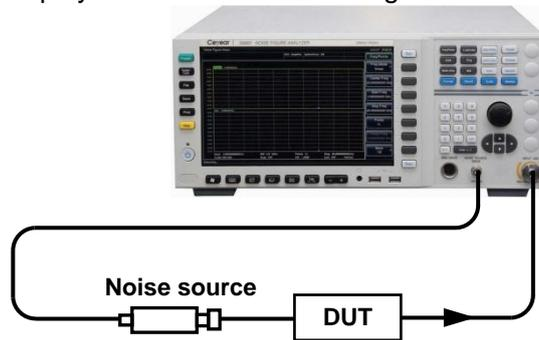

Figure 4.12 Connect DUT for Measurement
**Step 3.** Connect the noise source output to the DUT input as shown in Figure 4.12. After the connection is completed, the measurement result will be displayed on the display screen of the noise figure analyzer. The graph display result is as shown in Fig.4.13.